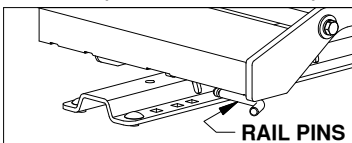

FIGURE B2: View of base leg.
2. Locate the 4 rail pins and hair pins. Insert each pin into the corresponding slot on the universal rail kit and through the Patriot Slider base pin tabs. Lock each pin into place with a hair pin, see figure B2 & B3.